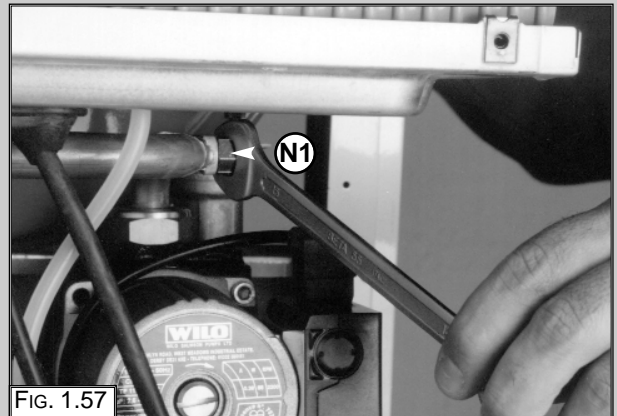

FIG. 1.57
2. Unscrew and remove the C.H. flow temperature probe "N1" (Fig. 1.57).